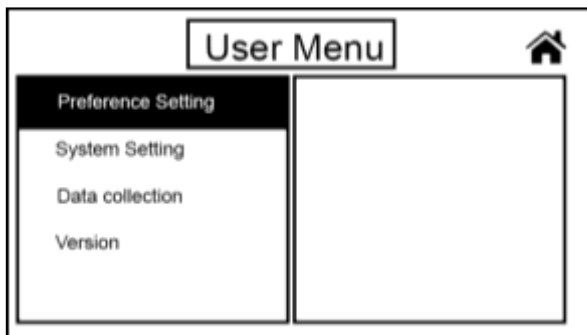
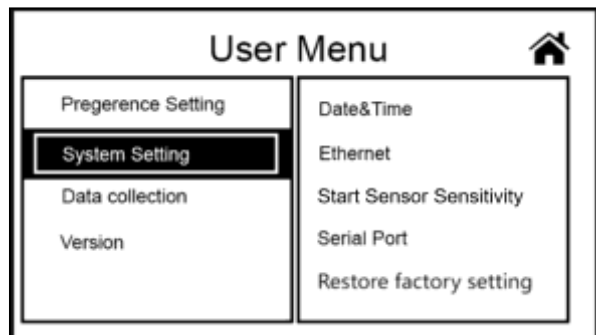

Figure 88
Figure 89
1) Touch the “Menu” key to enter the “User Menu” interface, as shown in Figure 88 below. Then press “System Setting” to enter the “System Setting” interface, as shown in Figure 89.